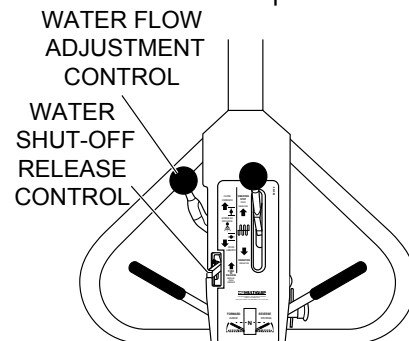

Figure 25. Water Flow Adjustment
1. Push the water shut-off release control to the release position (Figure 25).